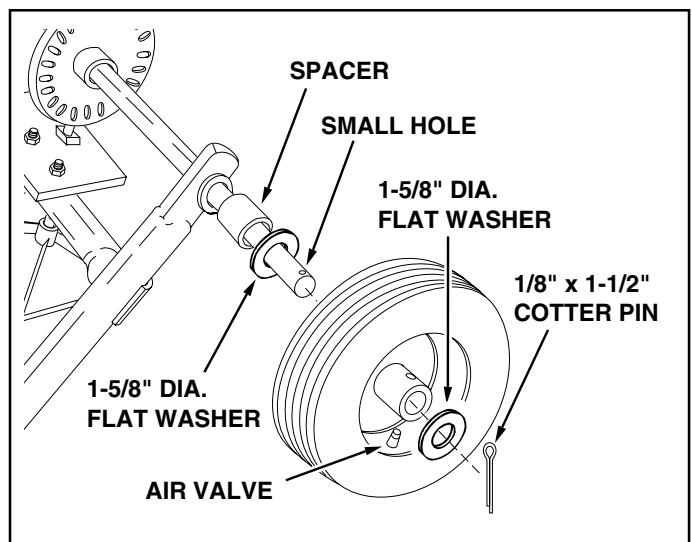

FIGURE 3
7. Assemble a spacer and a 1-5/8" flat washer onto the end of the axle that has the **small hole**. See figure 3.
8. Place a wheel (air valve facing out) and then one or two 1-5/8" flat washers onto the axle. Install the 1/8" x 1-1/2" cotter pin into the axle. The wheel must spin freely. See figure 3.